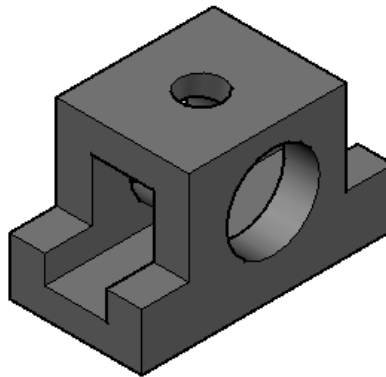

Figure 26-55 Final solid model for Example 1
26. Subtract this cylinder from the model and change the visual style to **Shades of Gray**. The final model should look similar to the one shown in Figure 26-55.